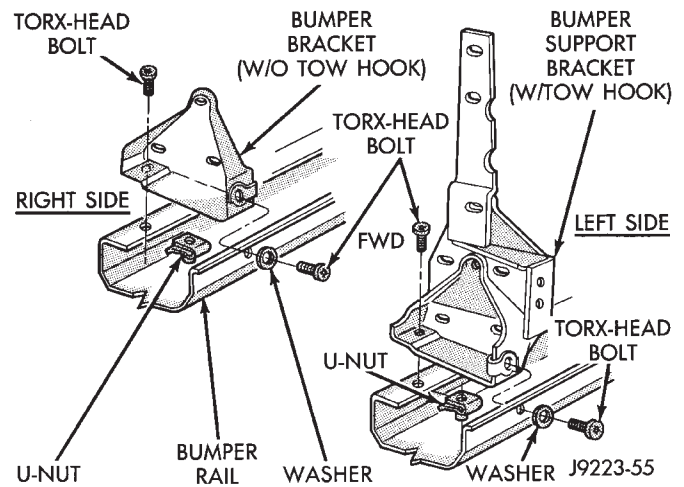
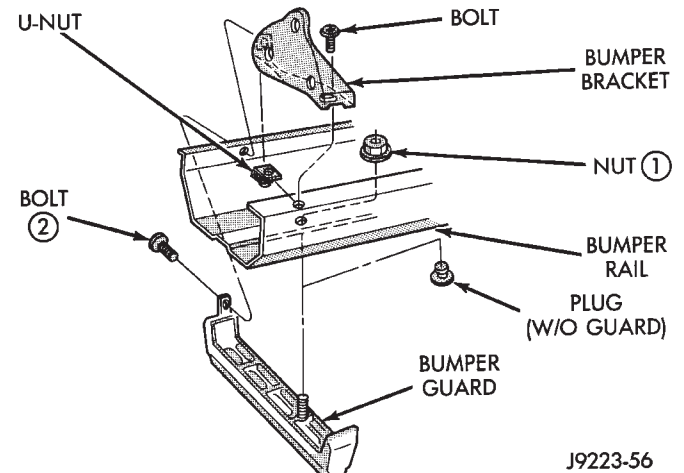
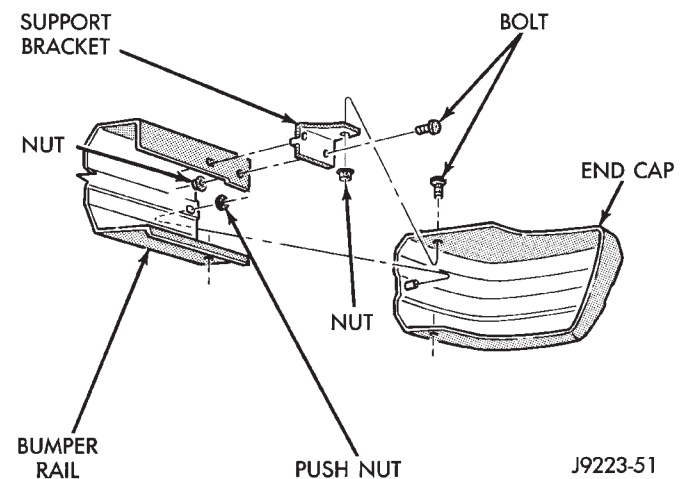

Fig. 6 Bumper Support Bracket Removal/Installation
Fig. 7 Bumper Guard Removal/Installation
Fig. 8 Bumper End Cap Removal/Installation
(9) If equipped, remove the nuts and bolts that attach the tow hooks to the bumper support brackets.
(10) Remove the support brackets (Fig. 6), bumper guards (Fig. 7) and caps (Fig. 8) from the bumper rail.
ets and bumper guards on the bumper rail. Tighten hardware in the sequence indicated in Figure 7. Tighten the locknuts with 20 N·m (15 ft-lbs) torque. Tighten bolts to 56 N·m (41 ft-lbs) torque.
(3) If not equipped with bumper guards, install the bumper support brackets on the bumper rail. Tighten bolts to 56 N·m (41 ft-lbs) torque.
(4) If equipped with tow hooks, install the bolts and nuts that attach them to the bumper support brackets. Tighten nuts with 100 N·m (74 ft-lbs) torque.
(5) Install the bumper end caps on the bumper rail (Fig. 8). Tighten nuts with 8 N·m (72 in-lbs) torque.
(6) Install the license plate bracket on the bumper rail. Tighten the nuts securely.
(7) If equipped, install the fog lamps on the bumper rail. Tighten the nuts securely.
(8) If removed, install the vacuum reservoir(s) on the bumper rail. Tighten the retaining screws and bolts to 8 N·m (72 in-lbs) torque.
(9) Position and support the bumper at the front of the vehicle.
(10) Attach the bumper support brackets to the right and left sillmembers and reinforcement brackets. Tighten screws and bolts to 56 N·m (41 ft-lbs) torque.
(11) If equipped, install the Torx-head bolts and locknuts that attach the tow hook straps to the underbody sillmember. Tighten locknuts with 30 N·m (22 ft-lbs) torque.
(1) If equipped, install the bumper guard and bumper support bracket on the bumper rail. Tighten the retaining hardware in the sequence indicated in Figure 7. Tighten locknuts to 20 N·m (15 ft-lbs) torque. Tighten bolts to 56 N·m (41 ft-lbs) torque.
(2) If not equipped with bumper guards, install the bumper support bracket on the bumper rail. Tighten bolts to 56 N·m (41 ft-lbs) torque.